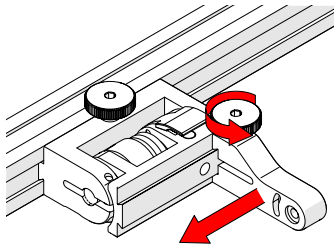

Fig. 74 - Position swing arm
5. Loosen the swing arm knob and slide the swing arm to the opposite end of the probe holder bracket (Fig. 74) or the preferred position. Tighten the swing arm knob.